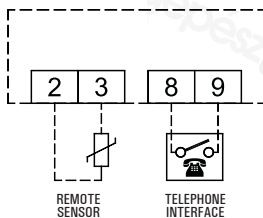

Fig. 4
4. Make the electrical connections following the connection diagram in Fig. 4.